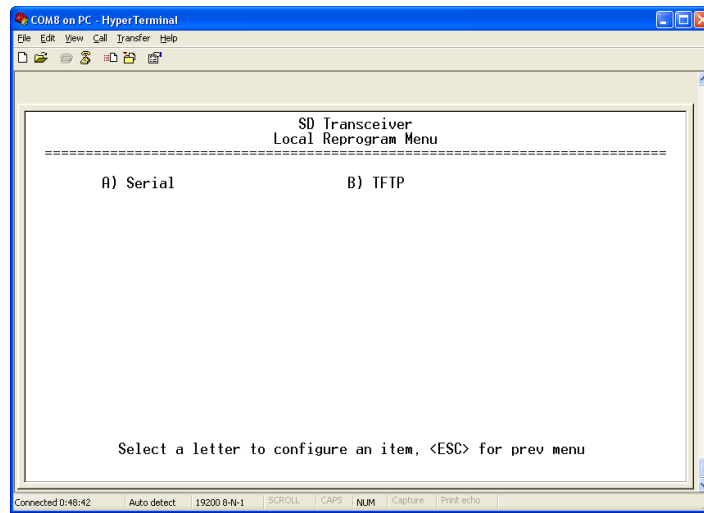

Figure 72. Local Reprogram screen
6. Access the Local Reprogram screen (Figure 72).